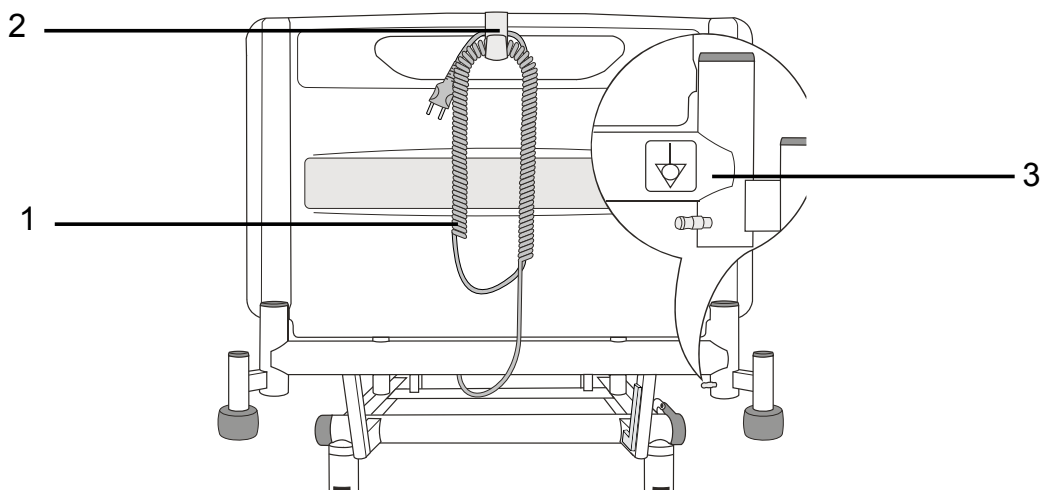

Figure 6: Power supply cord and potential equalization terminal
A potential equalization terminal (Figure 6, item 3) is located at the head end of the bed.